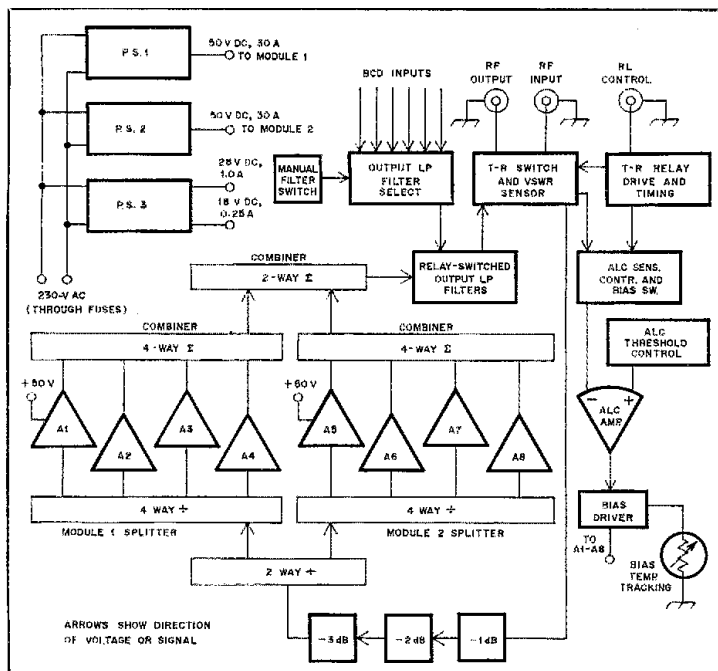

Fig. 1 — Block diagram of the 2-30 MHz power FET linear amplifier. A1-A8, inclusive, are individual FET amplifiers. See text for circuit description.
The components for the circuit of Fig. 1 are not available from a single source. Many are engineering samples that were obtained from various manufacturers. As stated earlier, this treatment is conceptual rather than practical.
In this amplifier, the bias is lowered only to near ground potential — a gain reduction of 8 to 10 dB. This can be sufficient in the event of a shorted or open load condition. Protective control voltage is obtained from a reflectometer at the amplifier output (Fig. 1). This amplifier also includes a self-contained linear a/c system. A/c voltage is not fed back to the exciter as is done normally. The control range is limited to about 2 dB, beyond which it would degrade the IMD ex-
A block diagram of the total system (exclusive of the digital panel meters) is shown in Fig. 1. One meter reads 0-199.9 V and the other is for 0-199.9 mV. The latter one reads current and has 50-A and 50-mA shunts. The shunts (3) are shown in Fig. 2 as 0.001-ohm resistors. The shunts are used to read the individual currents of the rf modules, and one shunt is utilized to monitor the total current. The voltmeter monitors the nominal voltages of the main supplies, or about one half the voltage difference when switched to both supplies.^{2,3} This metering system eliminates the need for heavy-duty wiring and prevents large currents from flowing through the switches.
There are two main rf modules (Fig. 1). Each contains four push-pull amplifiers. Combiners are used to produce a summed output of 1600 to 1800 W. Two pieces of Aavid Engineering heat-sink extrusion (no. 60140) support the amplifier boards, the combiners and other components of each module. Four copper heat spreaders (each 3/16 × 2 × 5-1/2 inches; mm = 25.4 × in.) are mounted individually on the flat surfaces of the heat sinks. The